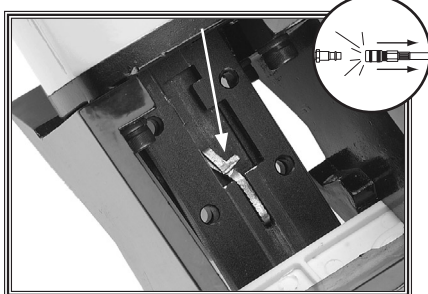

Figure 5. Jammed staple in discharge area.
5. Remove the jammed staple from inside the discharge area with a pair of need nose pliers (see Figure 5).